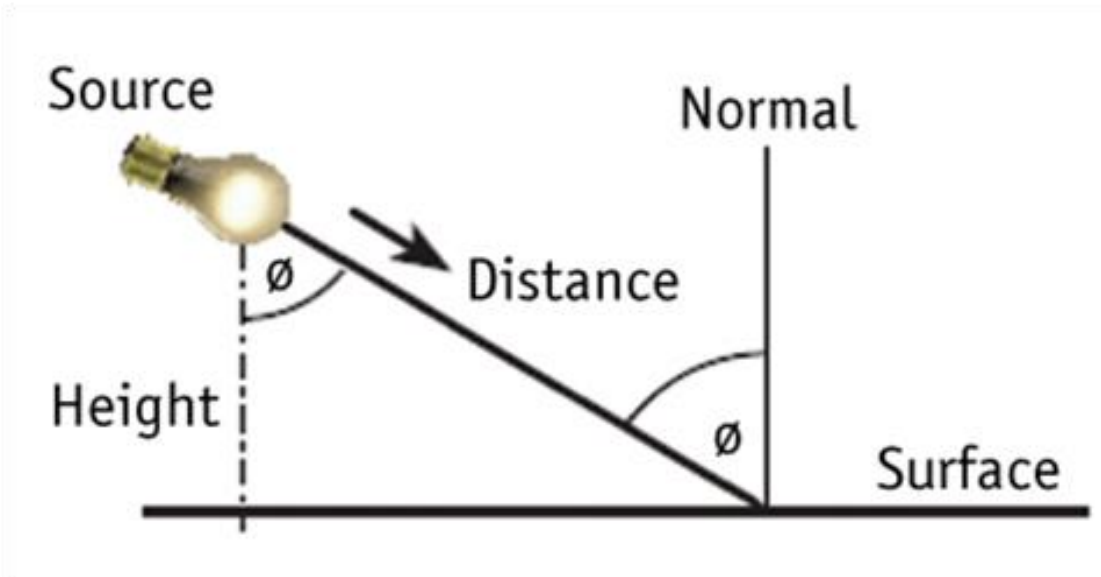

Fig. PF-7-1-9 Inverse Square Law for Inclined Surfaces
- The value of illumination at any point on a surface will be reduced by the cosine of the angle of incidence and may be calculated from the following Equation. See **Fig. PF-7-1-9** for illustration